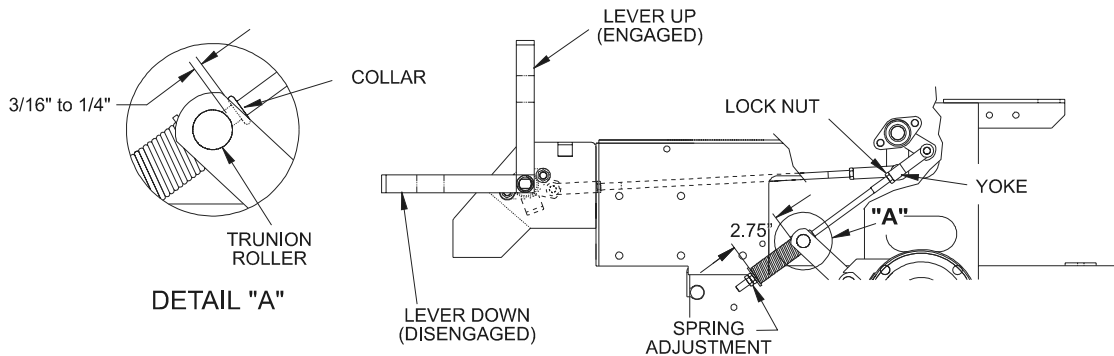

FIGURE 12
- b) Measure the length of the spring. Measurement should be 2.75" (7.0 cm) between washers (see Figure 12).
- c) Measure the distance between the trunion roller and the rod collar as shown in Figure 9A. Measurement should be 3/16" (4.8 mm) to 1/4" (6.4 mm) (See Figure 12). A 3/16" or 1/4" square key works well as a shim gauge.
- d) If adjustment is necessary, loosen the nut directly below the yoke. Turn the bottom nut (below washer) until the correct measurement is obtained (See Figure 12) turn nut clockwise to lengthen the gap (screws rod into yoke) and turn counter-clockwise to shorten the gap (screws rod out of yoke). Tighten nut against yoke and check opposite side of unit, repeat if necessary.